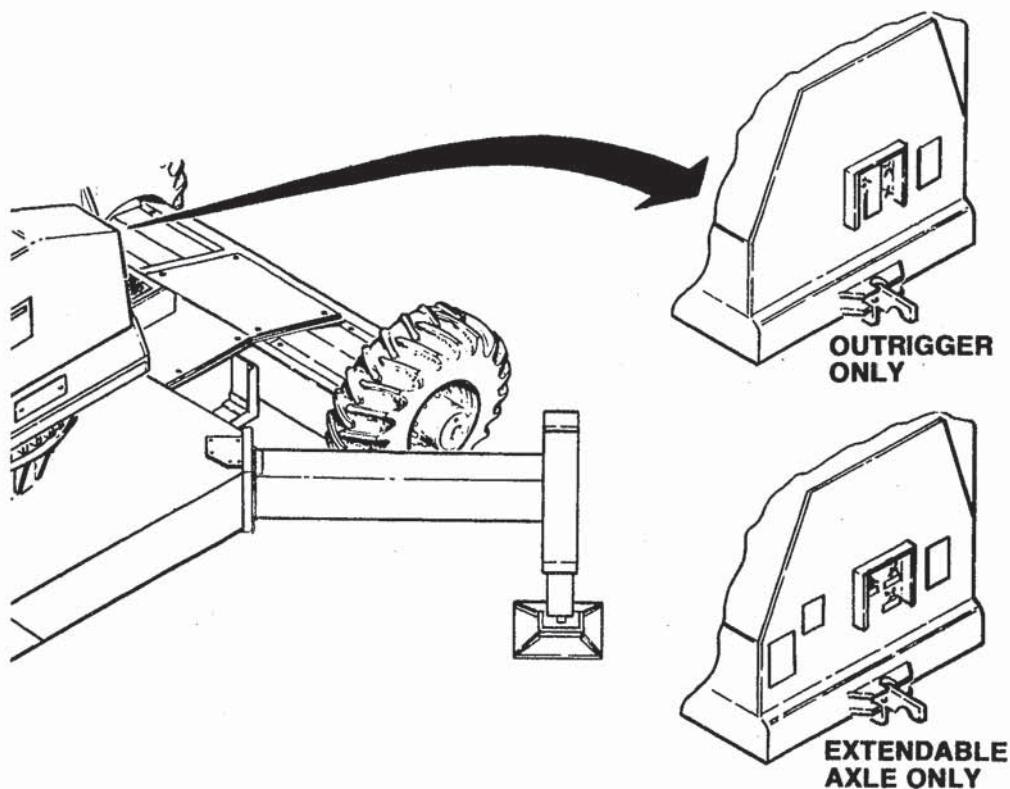

Figure 6-1. Manual Descent Valves.
c. Manual Descent and Retraction. (Figure 6-1.)